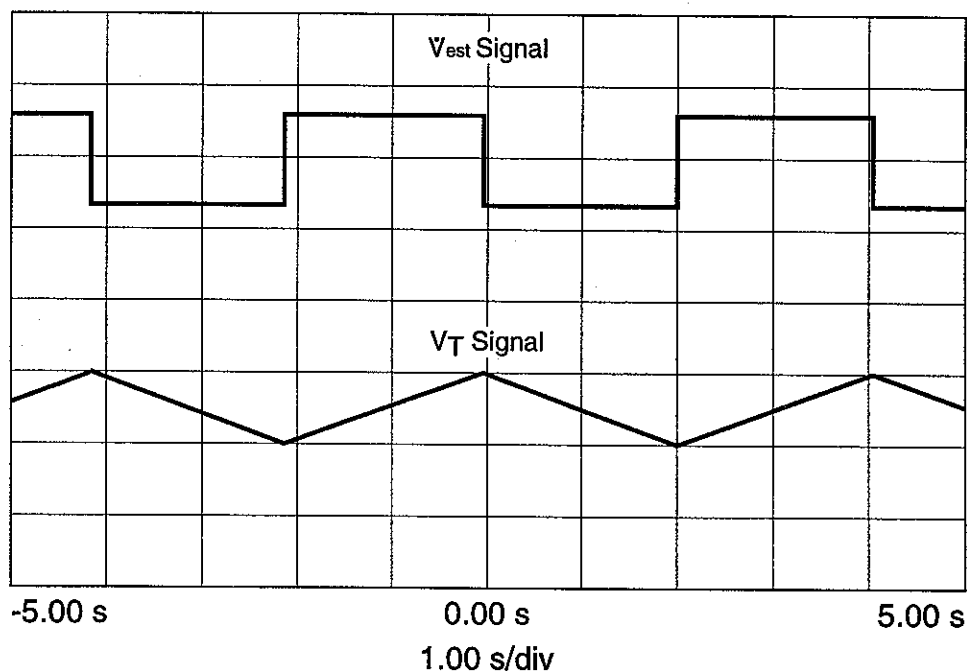

Figure 7-14. Calibration Signals.
Step 2 When a steady state is attained in approximately 20 seconds,  $V_{est}$  should be a square wave of +0.5V to -0.5V amplitude, 50% duty cycle, 4 sec. period;  $V_T$  should be a triangle wave of  $0.5 V_{PP}$  with 50% duty cycle and 4 sec. period. See Figure 7-14.